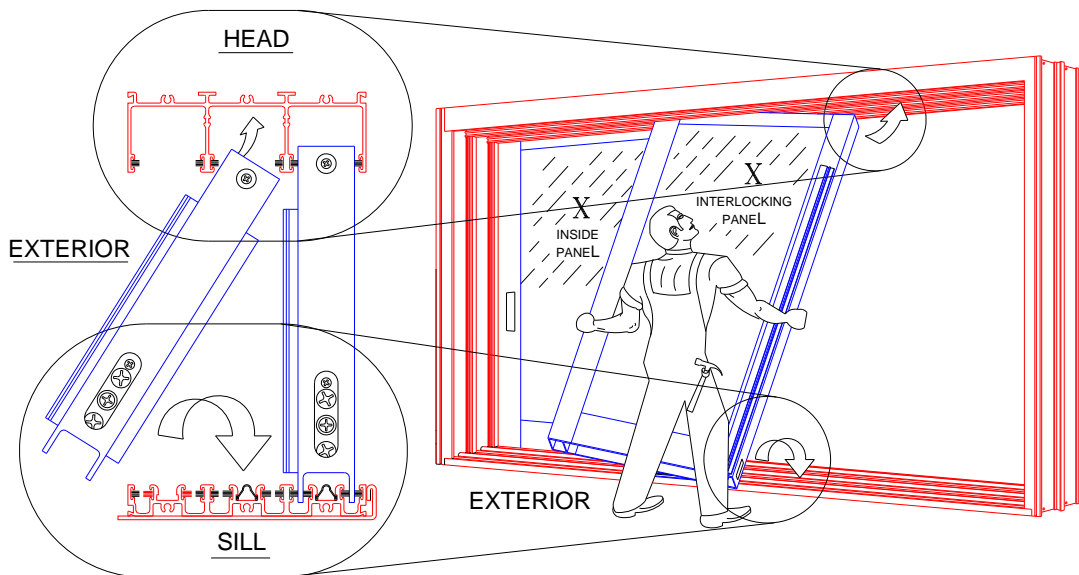

Figure 30:
2. Insert panel into the upper head channel (Figure 30). Push up and swing the bottom inward until panel is vertical, then lower panel down onto the track. On PX or XP configurations, if the pocket construction has been completed, it may be necessary to remove the lead stile from the panel before installation into the frame can be accomplished.